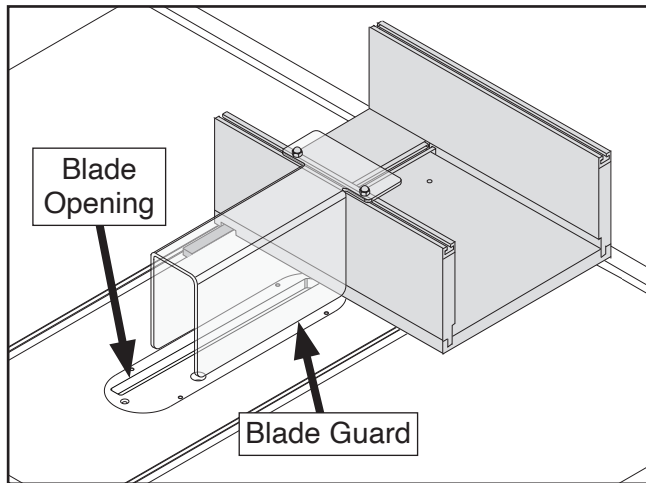

**Figure 6.** Attaching blade guard to sled.
6. Insert (2)  $\frac{1}{4}$ "-20 x  $\frac{1}{2}$ " hex bolts into front sled T-slot, as shown in **Figure 6**.
7. Align bolts with holes in blade guard, then attach blade guard by loosely threading (2)  $\frac{1}{4}$ "-20 acorn nuts onto bolts (see **Figure 6**).